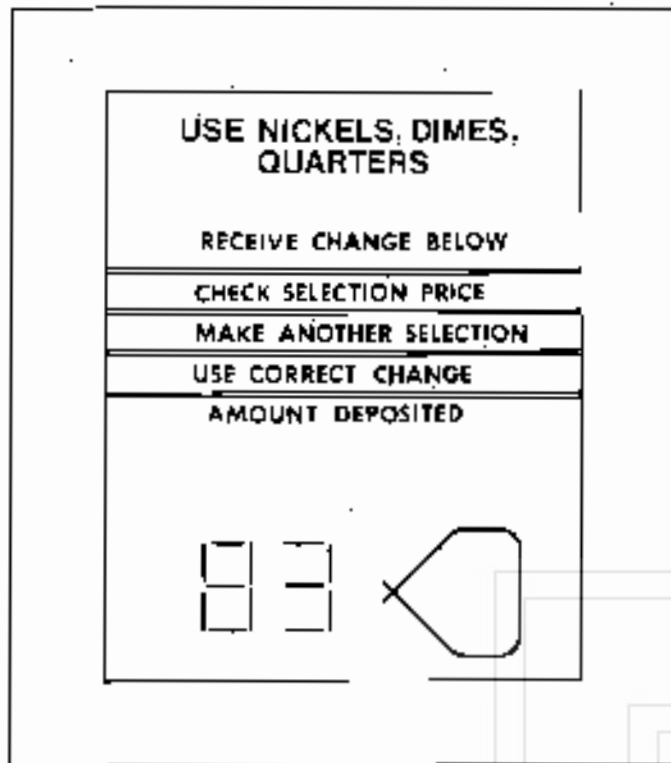

Figure 21. SHOWING SELECTION B3 NOT OPERATING
- B. Press button 14 on the selection panel, if any of the motors are not functioning (jammed, bad switch, bad harness, etc.) the first non-functioning motor in the series will be displayed on the selection panel display (Figure 21).